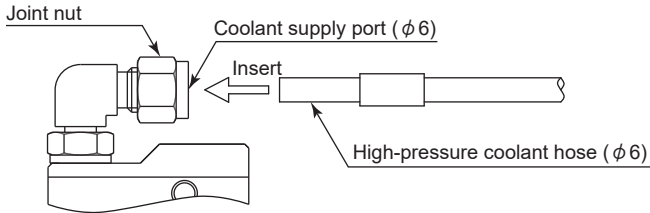

Fig. 11
- (1) Insert the high-pressure coolant hose (diameter  $\phi 6$  mm) fully into the coolant supply port (diameter  $\phi 6$  mm), and turn the joint nut clockwise to tighten it. (Fig. 11)